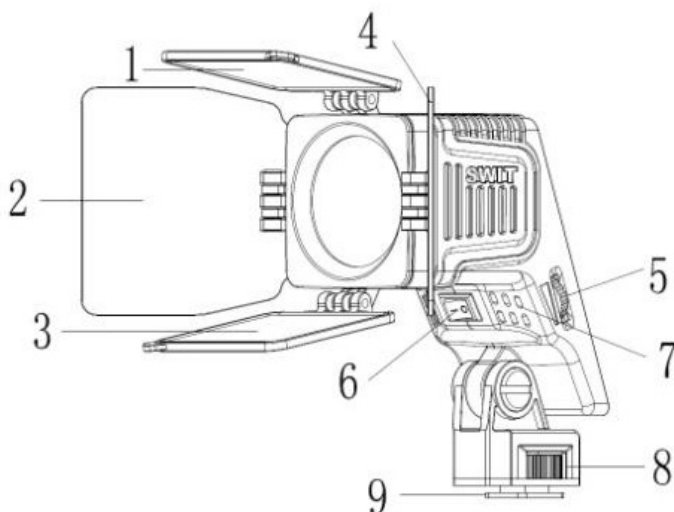

Fig 1
Open the barn doors and filters to about 45°. See Fig 1
Output 5600K light by using 5600K filter (See Fig1 -①)
Output 3200K light by using 3200K filter (See Fig1 -③)